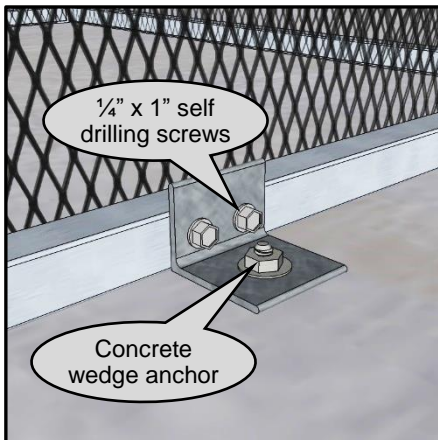

Figure 5
- 3 Use provided $\frac{1}{4}$ " x 1" self drilling screws to secure floor anchor brackets to bottom tube of shaft. Brackets should be installed on opposite sides where possible. (see Figures 5 & 6)
- 4 Use provided $\frac{1}{2}$ " x $5\frac{1}{2}$ " wedge anchors to secure the shaft to the floor. Use one wedge anchor per bracket. (see Figures 5 & 6)